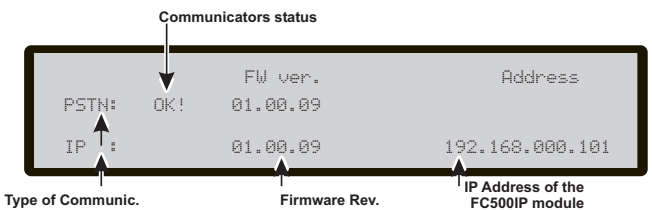

Figure 53 Display Communicators
If **key 6** is used to select the Communicators connected to the control panel, the screen shown in Figure 53 will appear. In addition to the Firmware version, the PSTN Telecom module status will be displayed using the following abbreviations: